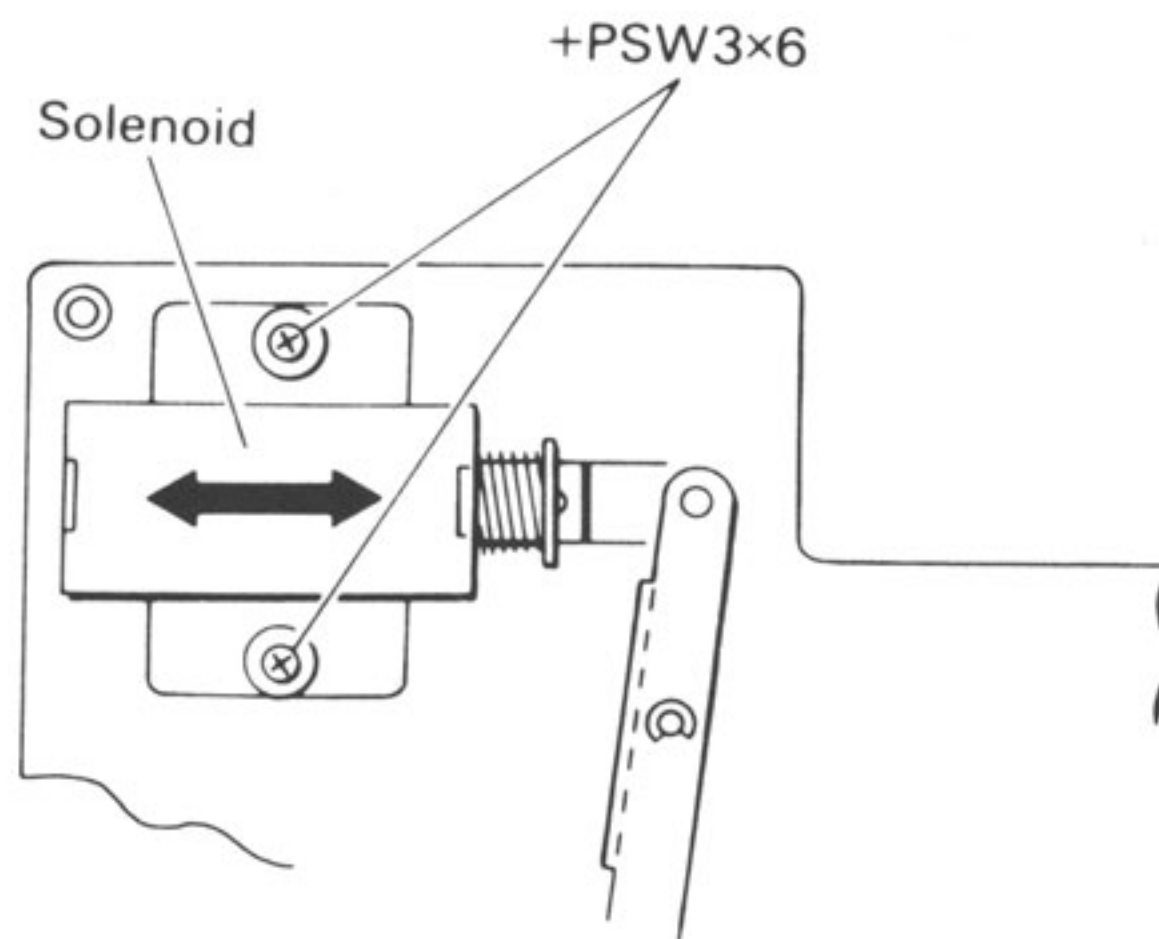

Figure 6-12. Lifters Out Position Adjustment
- STEP 2.** Loosen the two 3x6 screws on the solenoid mounting as shown in Figure 6-12.